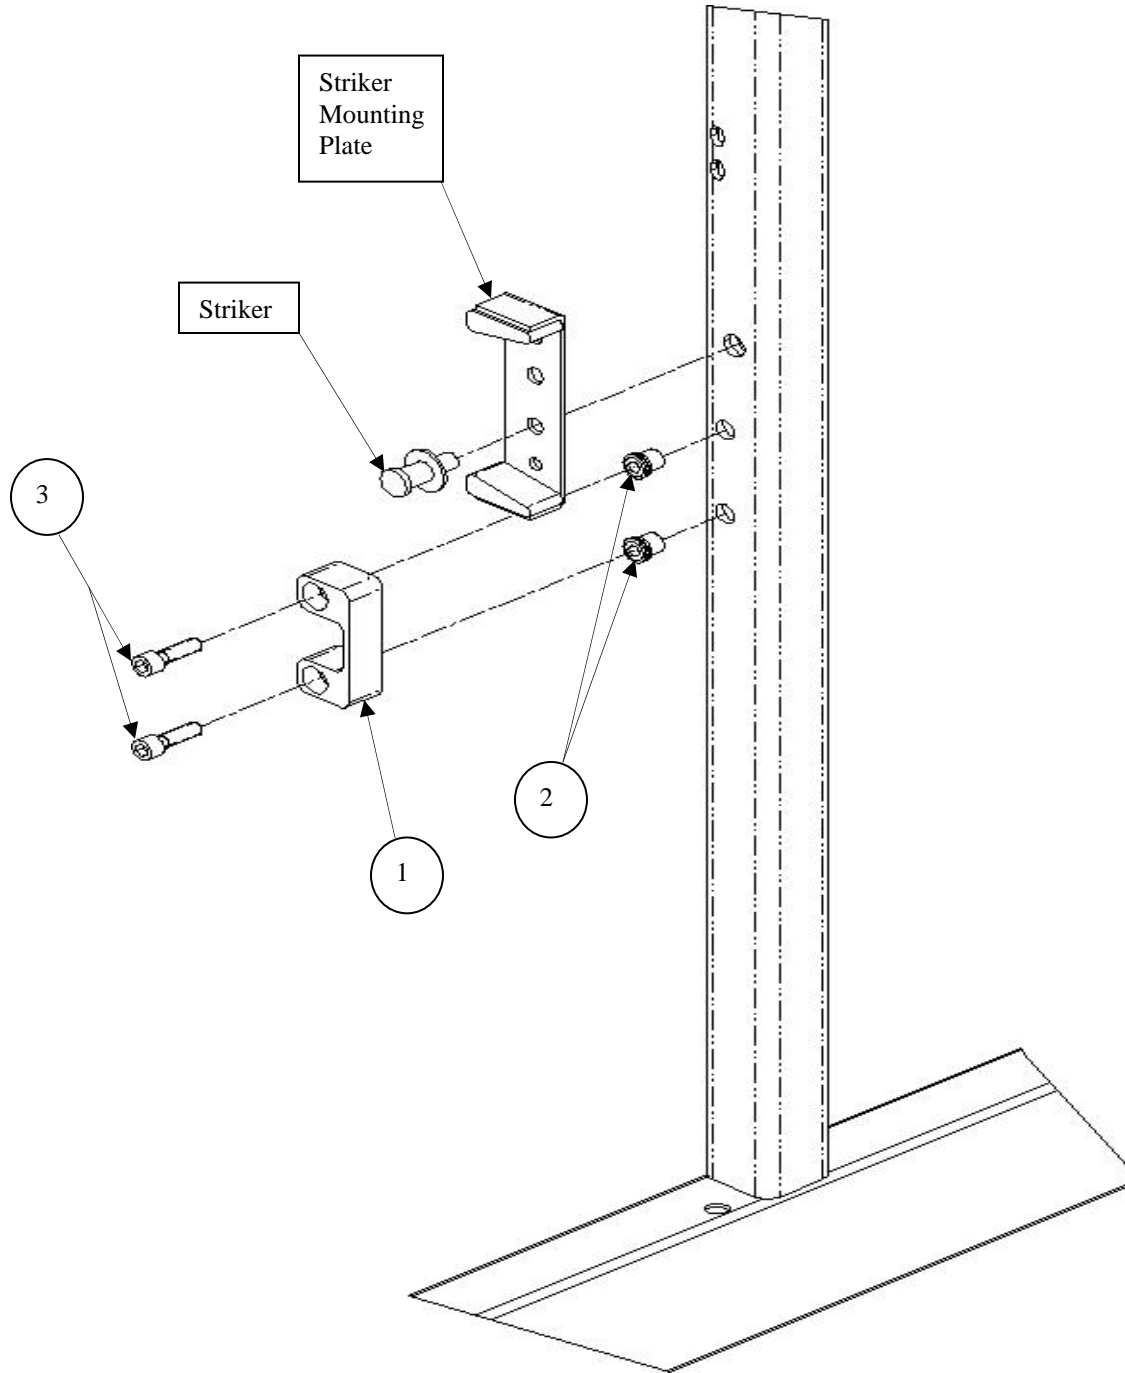

Figure 3-79. Door Striker and Striker Support Installation.
3. Install door striker and door striker support as follows (see Figure 3-79):
- b. Position and align striker support (1) against bottom of striker mounting plate and transfer two hole-locations to “B” pillar.
- c. Remove door striker support (1) from “B” pillar.
- e. Install two upset nuts (2) into “B” pillar.
- f. Install door striker support (1) and secure with two screws (3). Torque to 23 lb-ft.